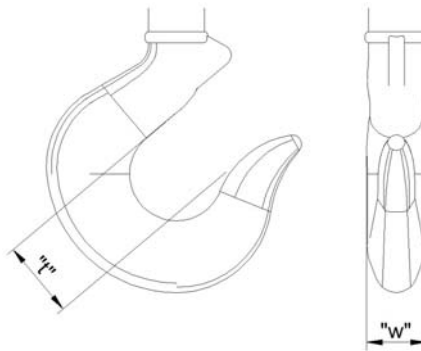

Figure 75 – Hook Throat Admittance
- Check the hook throat admittance (see Figure 75). Replace the complete bottom block where "t" max. has been exceeded.